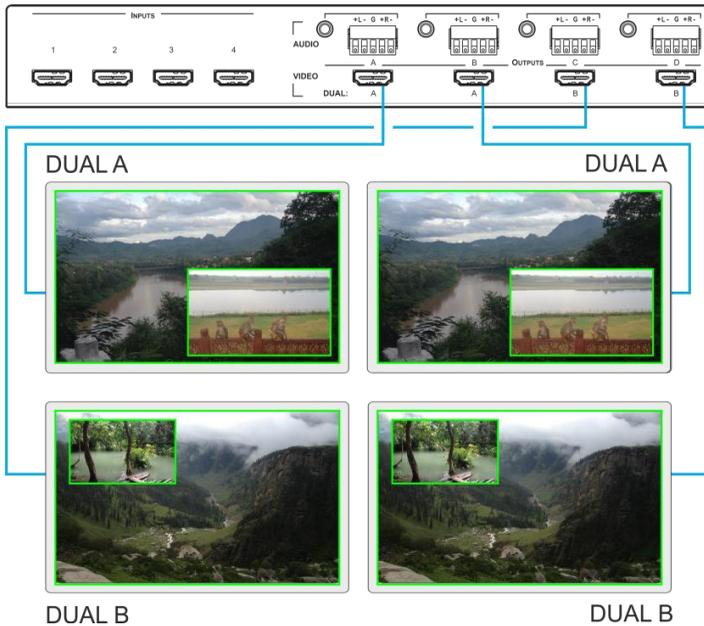

Figure 8: Connecting the VSM-4x4A in Dual Operation Mode
In Dual mode, **VSM-4x4A** is set as a 4x2 switcher with picture-in-picture capabilities that outputs two identical A outputs and two identical B outputs (see Figure 8).
To connect in the Dual mode as illustrated in Figure 8:
1. Connect the inputs (1 to 4) to HDMI sources, not shown in Figure 8.